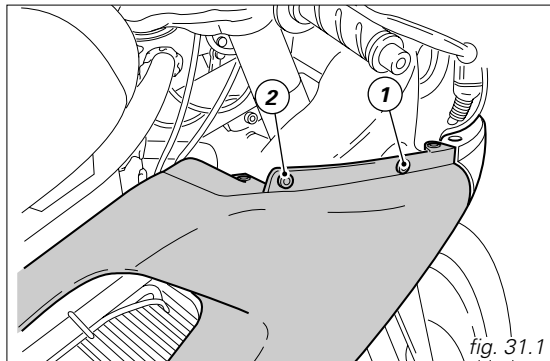

fig. 31.1
Unscrew the fastening screw (1, fig. 31.1) that holds each body panel to the side frame on the left side or to the expansion reservoir on the right side and the rear screws (2) that hold each of them to the frame bracket.